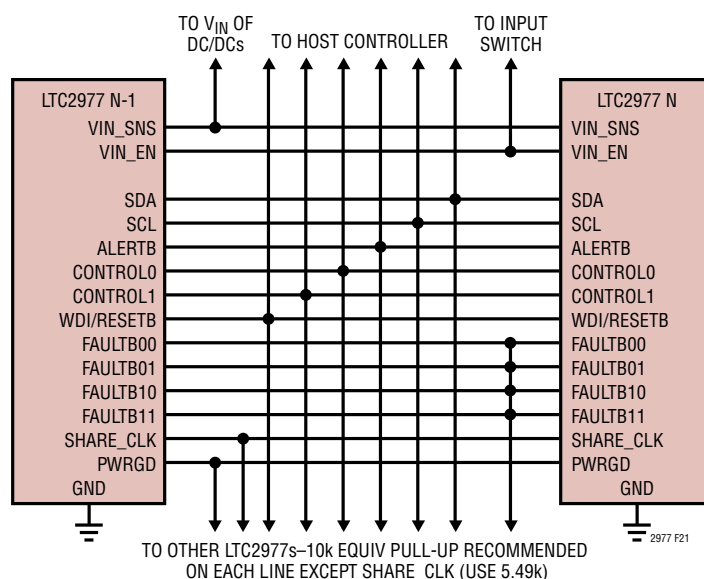

Figure 21. Typical Connections Between Multiple LTC2977s
Figure 21 shows how to interconnect the pins in a typical multi-LTC2977 array.
- The FAULTB_{zn} lines can be connected together to create fault dependencies. Figure 21 shows a configuration where a fault on any FAULTB_{zn} will pull all others low. This is useful for arrays where it is desired to abort a start-up sequence in the event any channel does not come up (see Figure 22).
- PWRGD reflects the status of the outputs that are mapped to it by the MFR_PWRGD_EN command. Figure 21 shows all the PWRGD pins connected together, but any combination may be used.